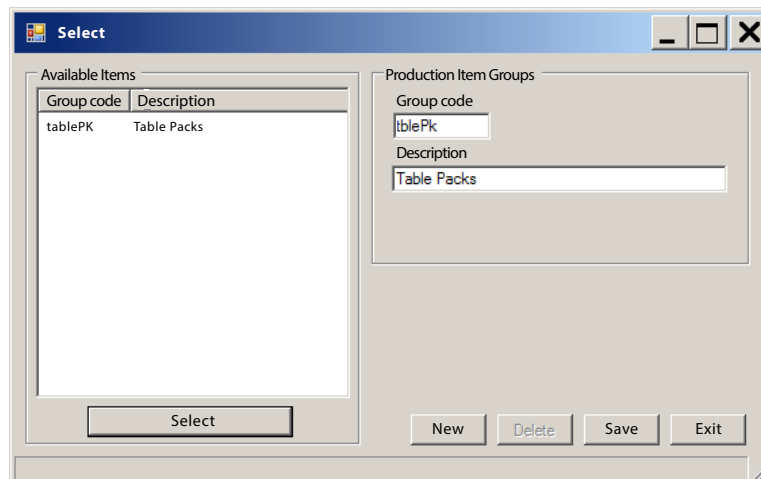

Figure 22. Cost Center Task: Item Group dialog.
5. Click **Save** (see Figure 22. Cost Center Task: Item Group dialog. on page 16).